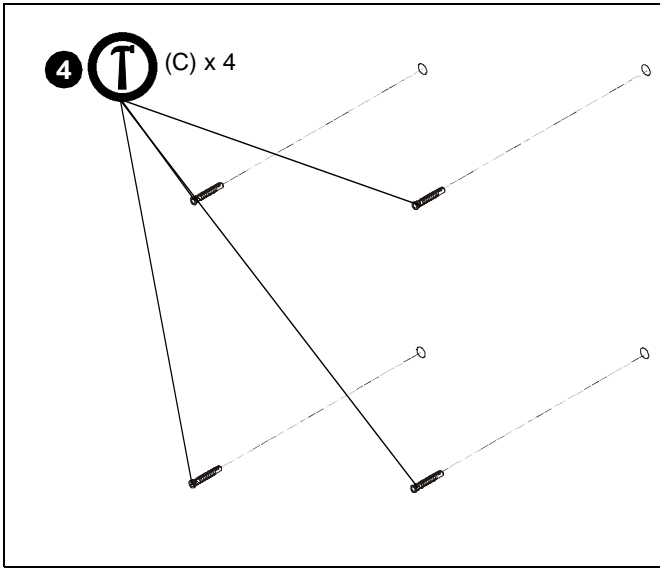

Figure 7
- Install four U10 anchors (C) into drilled holes. (See Figure 7)